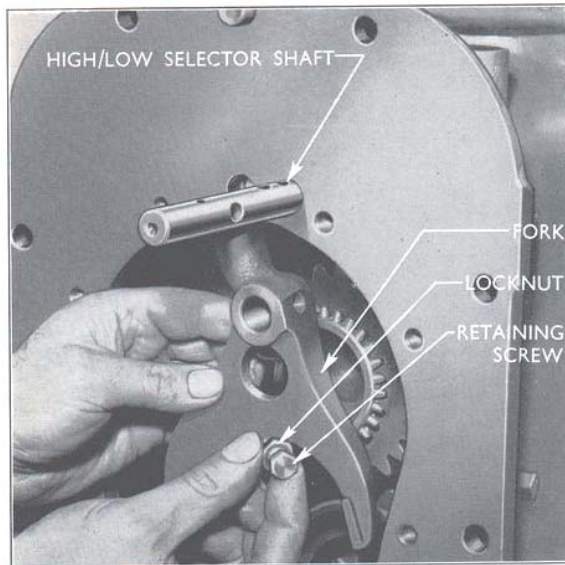

Fig. 23
3. Position the high/low speed fork, in the rear compartment of the gearbox. The fork must be assembled with the hollow boss (for the selector lever) facing towards the left-hand side of the gearbox (see Fig. 23). Assemble the corresponding selector rail picking up the fork and insert the fork to rail securing screw ensuring that the screw locates firmly in the depression in the selector rail before tightening the locknut.